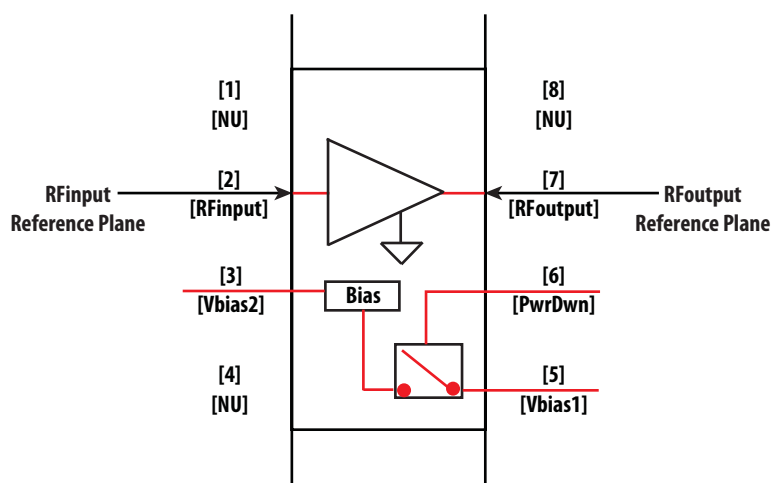

Figure 25. RFinput and RFoutput Reference Plane
2. Scattering and noise parameters are measured on coplanar waveguide made on 0.010 inch thick ROGER 4350. The input reference plane is at the end of the RFininput pin and the output reference plane is at the end of the RFinoutput pin as shown in Figure 25.